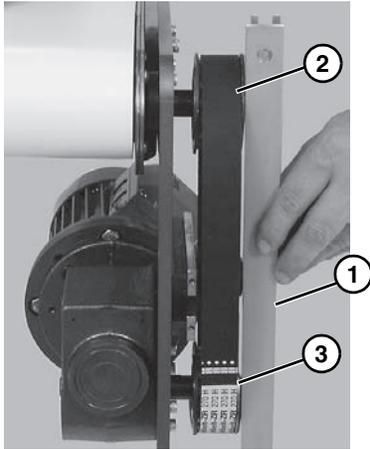

Figure 9
8. Using a straight edge (**Figure 9, item 1**), align driven pulley (**Figure 9, item 2**) with drive pulley (**Figure 9, item 3**).